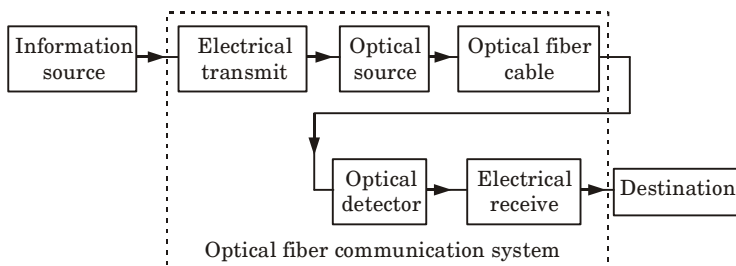

Fig. 1.2.1. The optical fiber communication system.
1. Fig. 1.2.1 shows the block diagram of optical fiber communication.